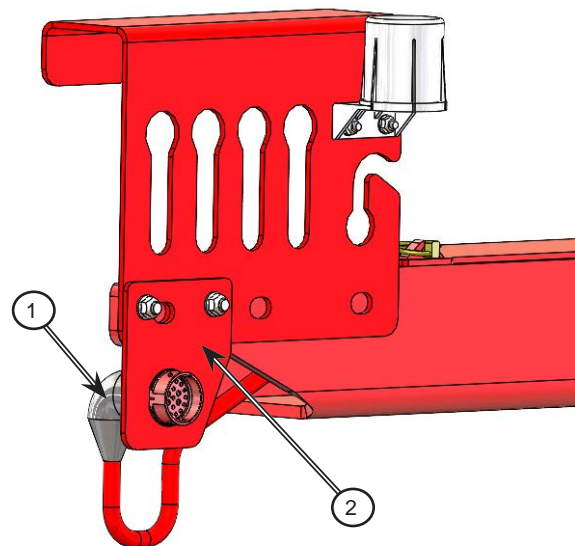

Figure 7: Insert the C1 Hitch Connector into the harness mounting plate
8. Feed the new implement harness through the hose holder, following the previous routing, and insert the C1 Hitch Connector (1) into the harness mounting plate (2), shown in *Figure 7*.
- a. Remove the washer and connecting nut from the C1 Hitch Connector and insert into the harness mounting plate (2). Ensure that the anti-rotation feature on the connector aligns with the flat portion of the connector cut-out on the mounting plate.